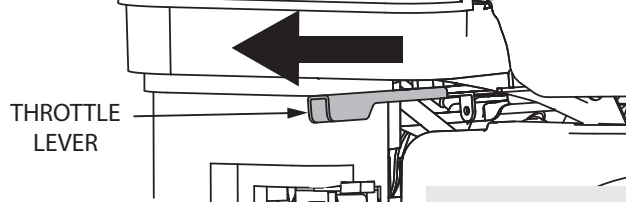

FIGURE 3
5. Move throttle lever 1/2 way between the **FULL** and **LOW THROTTLE** positions. *(This is not necessary on models with throttle fixed at full throttle position.)* **SEE FIGURES 3 AND 4.**
12. Move throttle lever to desired speed. *(This is not necessary on models with throttle fixed at full throttle position.)* **SEE FIGURE 3.**